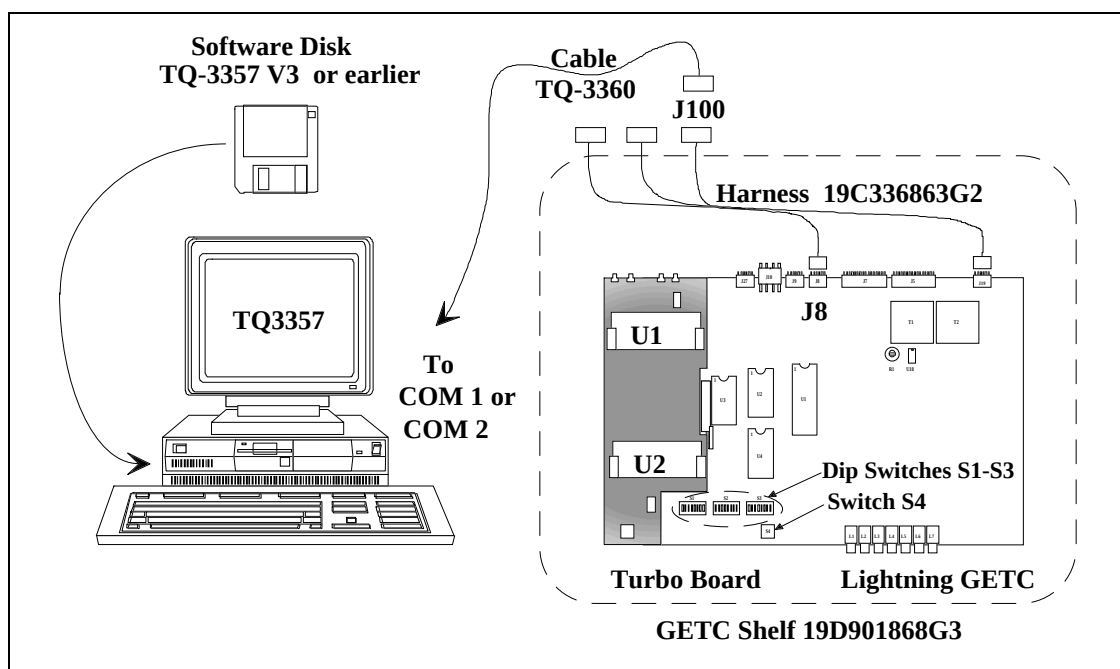

Figure 5 - System Hook-Up Using J100
- One end of the serial programming cable (TQ-3360) should be connected to the computer. The other end of the serial cable connects to the GETC Shelf connector J100, see Figure 5.